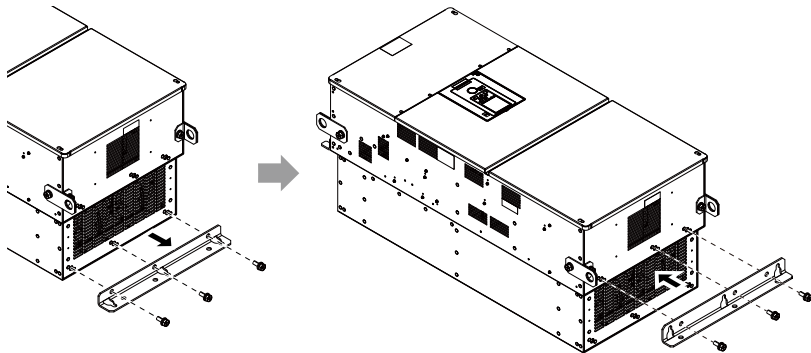

Figure 5.17 Attach the Mounting Bracket
4. Change the position of the mounting bracket and install it in the position shown in Figure 5.17.